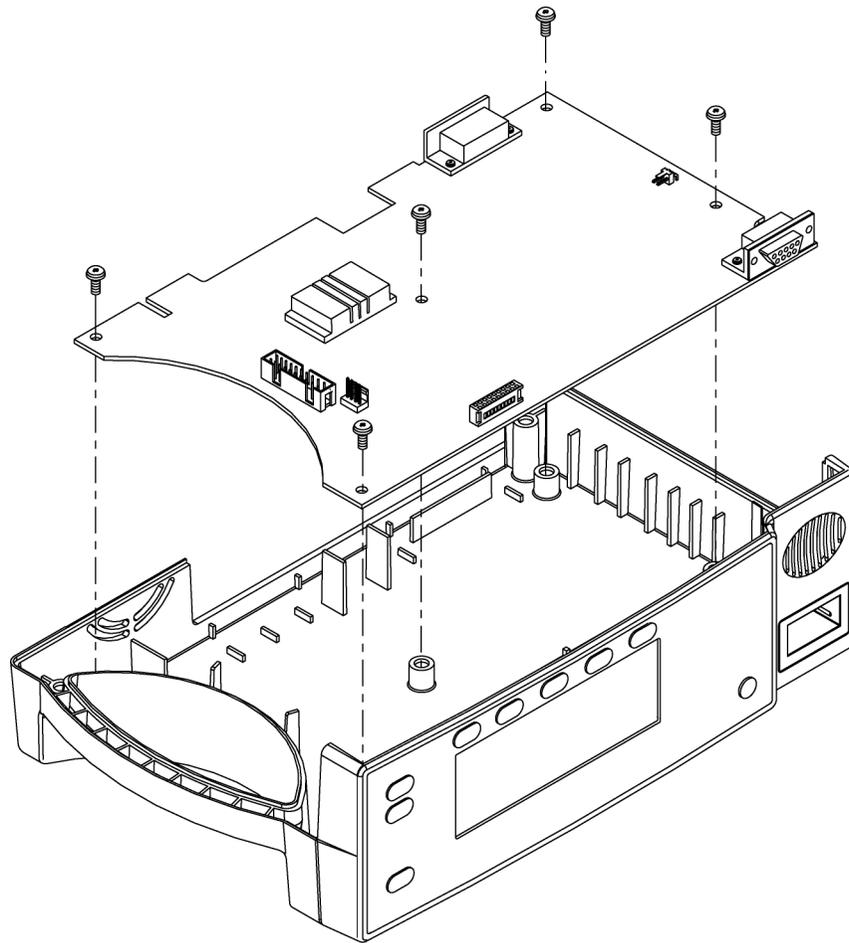

Figure 12: User Interface PCB
6. Remove the five screws in the User Interface PCB (Figure 12 on page 77).